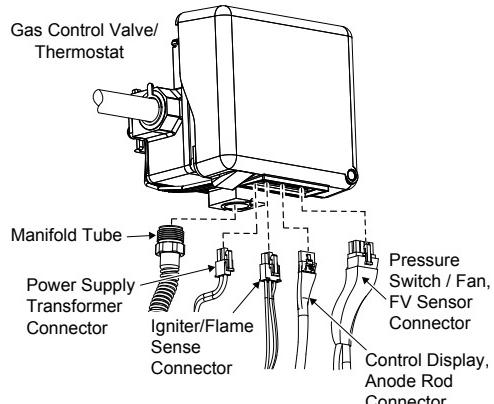

FIGURE 24.
4. Disconnect all wiring connectors from the gas control valve/thermostat (Figure 24). Disconnect the manifold tube at the gas control valve/thermostat.
7. Reconnect the flame sense/hot surface igniter wire to the gas control valve/thermostat (Figure 24).
5. Disconnect the flame sense/hot surface igniter wire, power supply transformer, pressure switch/fan and display connector wires from the thermostat (Figure 24). Disconnect the manifold tube at the thermostat (Figure 24).
3. Reconnect the manifold tube, flame sense/hot surface igniter wire, power supply transformer, pressure switch/fan and display connector wires (Figure 24).